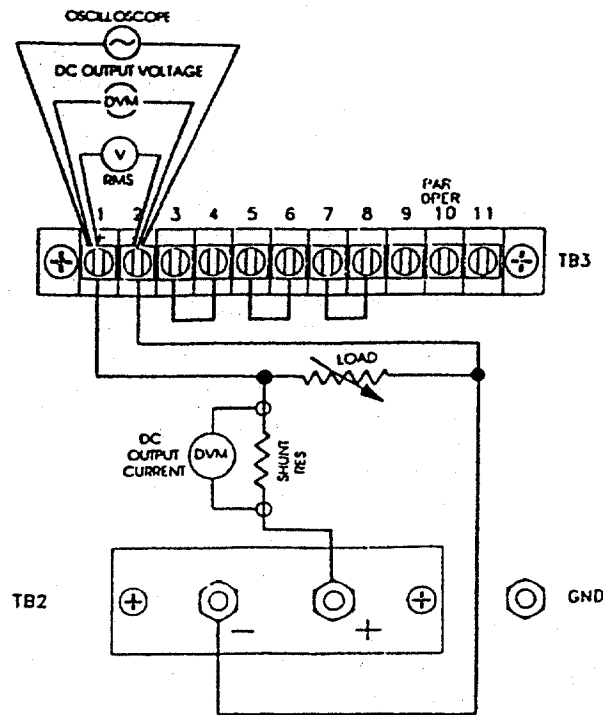

FIGURE 5-1 Performance Test Setup
1. Connect a sensitive digital voltmeter and an RMS ac voltmeter across unit output terminals per Figure 5-1. Select a current shunt per Table 5-2 with a DVM for current output readings.